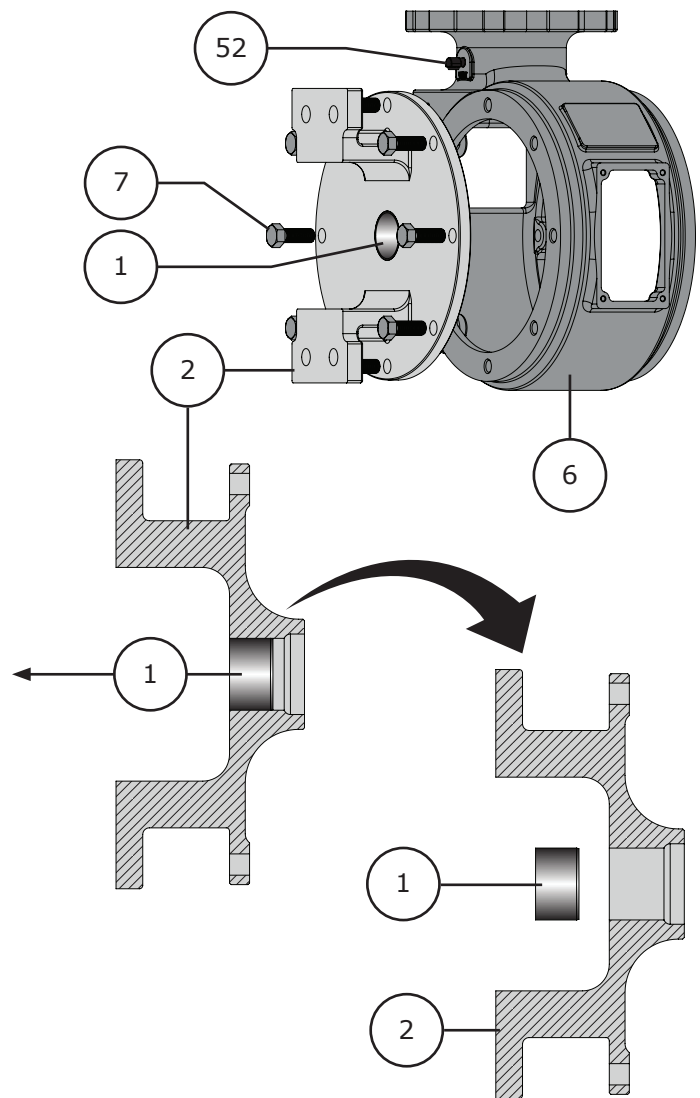

Figure 19 Yoke Removal and Disassembly
- 1** Support the actuator housing (Key 6) before removing the yoke (Key 2). To remove the yoke, remove the cap screws (Key 7). Refer to Figure 19.
- 3 Replace the bushing (Key 1) by carefully pressing it out of the yoke (Key 2). Refer to Figure 19.